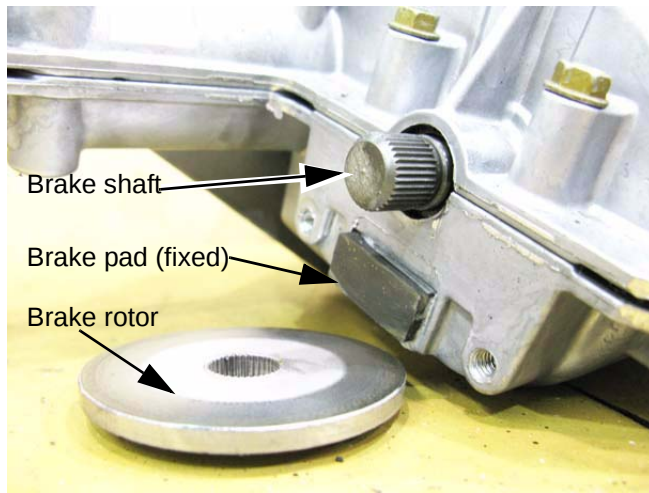

Figure 6.90
- 6c. Slip the brake rotor off of the brake shaft (splined end of bevel gear shaft). See Figure 6.90.